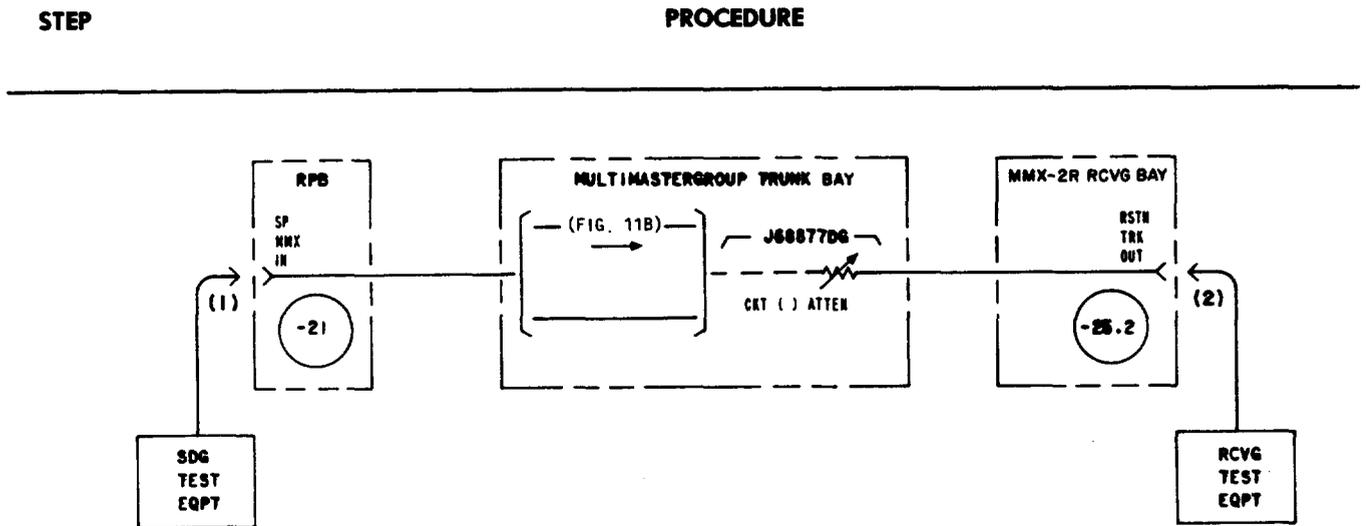

Fig. 4—Receiving Spare Mastergroup Bank Restoration Trunk
4	Connect the STE to the SP MMX IN jack in the restoration patch bay [patch (1), Fig. 4].
5	Connect the RTE to the RSTN TRK OUT jack [patch (2), Fig. 4].
Note 1: A zero-loss trunk (Fig. 9B) may be used in conjunction with this trunk. In this case, the zero-loss trunk should be tested as prescribed in Chart 9B. The zero-loss trunk is indicated in Fig. 4 by the designation Fig. 9B.